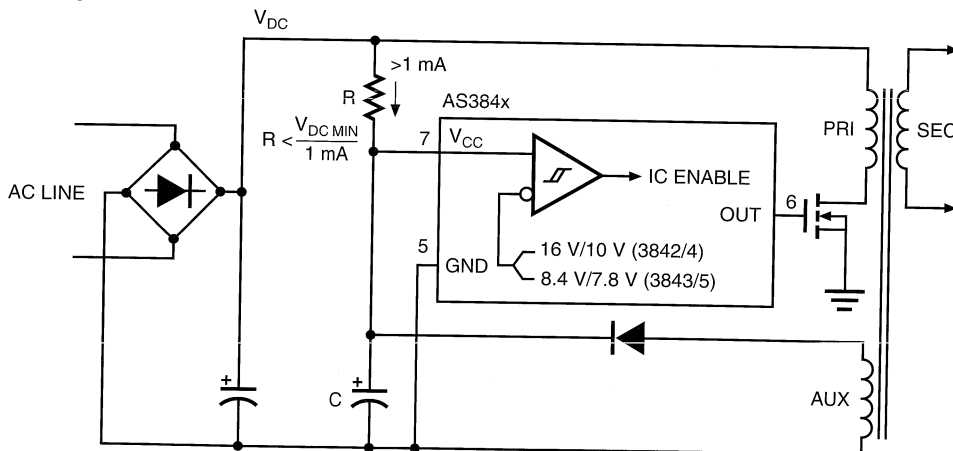

Figure 14. Bootstrap Circuit
The low quiescent current standby mode of the AS3842 allows “bootstrapping”—a technique used in off-line converters to start the IC from the rectified AC line voltage initially, after which power to the IC is provided by an auxiliary winding off the power supply’s main transformer. Figure 14 shows a typical bootstrap circuit where capacitor (C) is